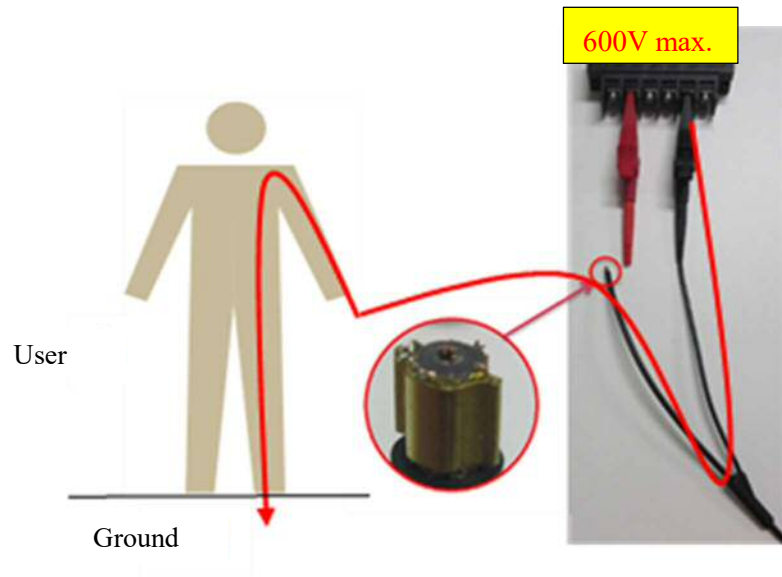

Figure 2: Exposed metal fitting
- 2. There is a risk of getting electric shock when a customer touches to the exposed metal fitting of the cut off coaxial cable while the black crocodile clip is connected to the live circuit (Figure 2).